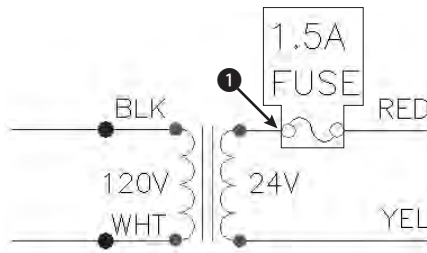

Figure 18-4: A portion of an electrical schematic
2. Save the file as `ab18-01.dwg` in your AutoCAD Bible folder. This is a small portion of an electrical schematic drawing, as shown in Figure 18-4. OSNAP should be on. Set running object snaps for endpoint, quadrant, and intersection.
6. Select the boxed objects shown in Figure 18-4: the two lines of text, the two circles, and the two arcs. Press Enter to end selection and return to the dialog box. Under the Select objects button, AutoCAD displays 6 objects selected.
8. In the drawing, use the Quadrant object snap to pick ❶ in Figure 18-4.